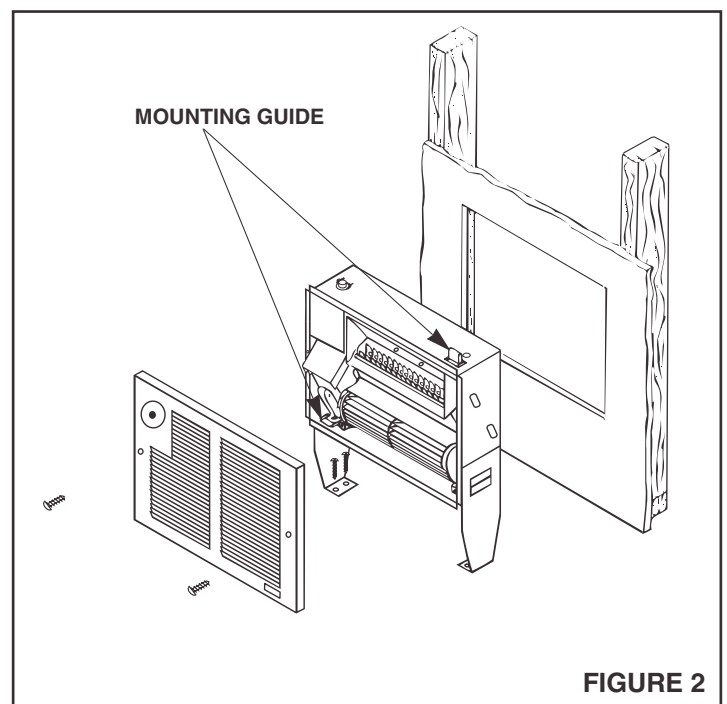

FIGURE 2
2. **Refer to Figure 2.** Make wall cutout next to a wall stud. Cutout size: 8 1/8" high x 11" wide.